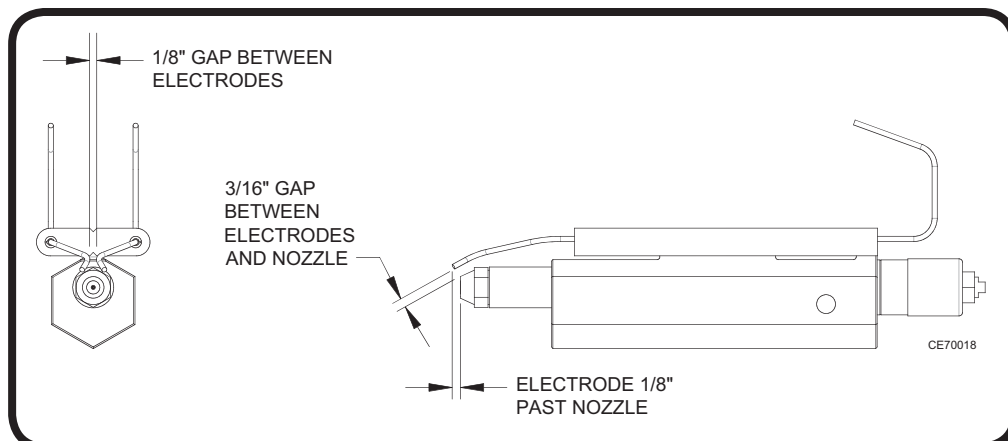

Figure 7: Nozzle and Electrode Settings
**NOTICE:** The nozzle, electrode, and retention head may need adjustment after shipping and installation. The nozzle should remain centered in the retention head. Refer to Figure 7 for proper dimensions.
- (1) Remove the two serrated flange nuts from the front door.
- (2) Slide the blast tube of the burner through the throat of the front door.
- (3) Fasten the burner to the front door by tightening the two serrated flange nuts.